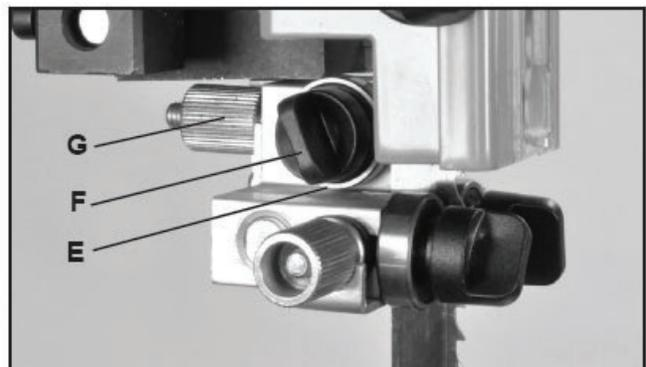

FIGURE 24
4. Adjust the rear bearing guide (E, Fig. 24) to be just clear of the back of the saw blade. Loosen the rear guide's Locking Knob (F, Fig. 24) and move the rear guide towards the blade by turning the rear, knurled micro-adjusting Knob (G, Fig. 24) that pushes the end of the guide's Long Shaft. When the correct adjustment is made, lock the guide in place by tightening the Locking Knob.